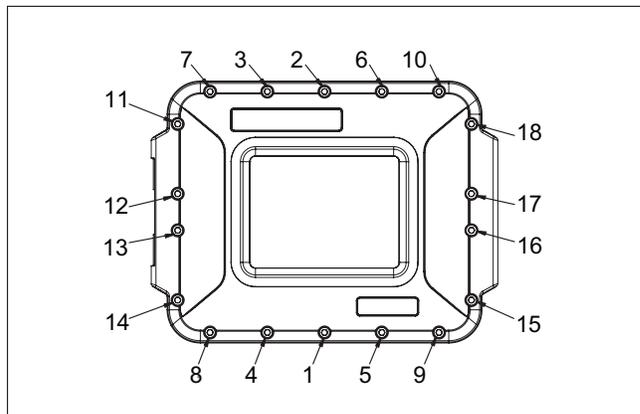
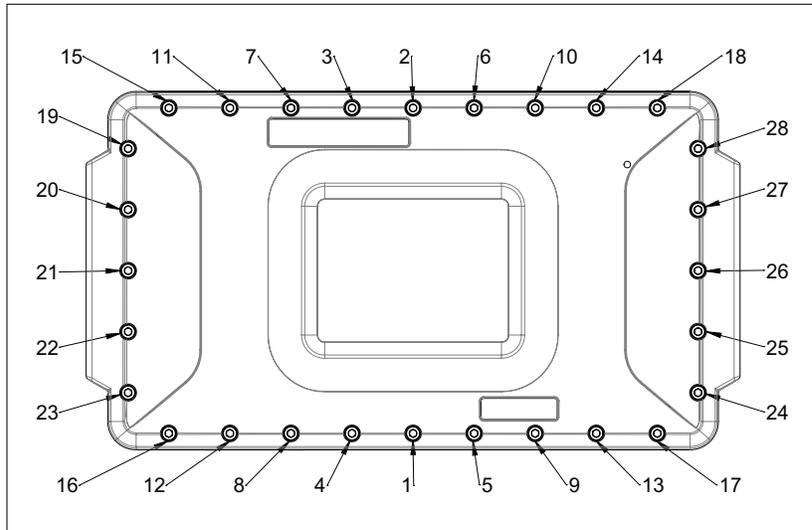

Figure 9 – Cover bolt torque pattern for AccuLoad IV-ST
Figure 10 – Cover bolt torque pattern for AccuLoad IV-QT
11. Grease exposed metal on mating surfaces of cover flange with petroleum jelly or TechnipFMC grease (P/N 644886401) before reattachment of the cover to the housing. Close the front cover and follow the bolt torquing sequence shown in Figure 9 for ALIV-ST or Figure 10 for ALIV-QT, to secure the front cover to the rear housing using the new 8 mm cap screws provided in the upgrade kit.
Warning: To maintain hazardous location protection, the cover to enclosure joint “gap” must be verified with a 0.0015" (0.04mm) feeler gauge. The feeler gauge must not enter the joint for more than a 1/4" (6mm) at any point around the perimeter of the cover to housing joint; see Figure 9 for example.